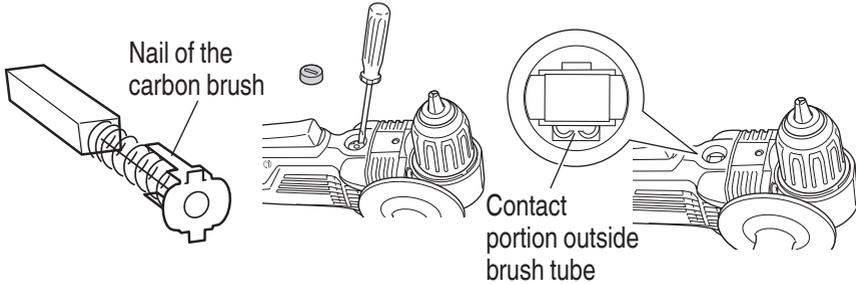

Fig. 14
5. Replacing carbon brushes (Fig. 14)